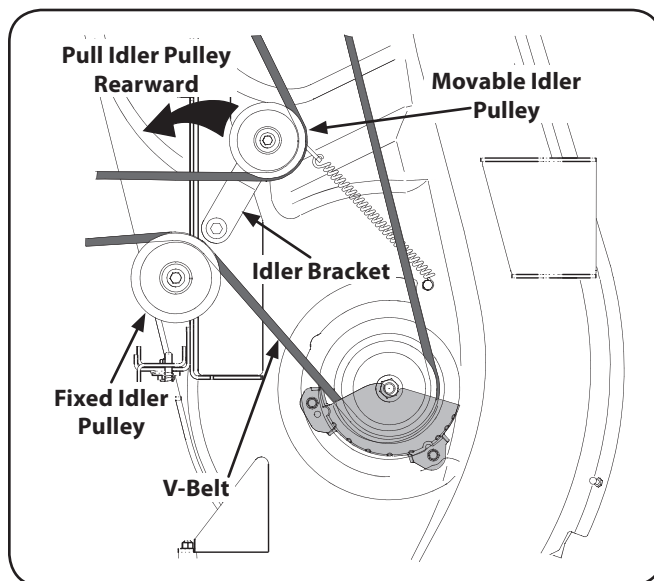

Figure 7-4
2. Working from the middle of the tractor, pivot the idler bracket and movable idler pulley rearward away from the backside of the 'V' belt just far enough to lift the belt up and over the idler pulley. See Fig. 7-4.
3. Route the backside of the belt around the fixed idler pulley of the deck. Refer to Fig. 7-4.
4. Working from the middle of the tractor, pivot the idler bracket/movable pulley rearward against the spring tension and slide the backside of the belt onto the movable idler pulley. Refer to Fig. 7-4.
2. Make certain the belt is in the spindle pulleys of the deck, and that the backside of the belt is against both the fixed and movable idler pulleys. Refer to Fig. 7-4.